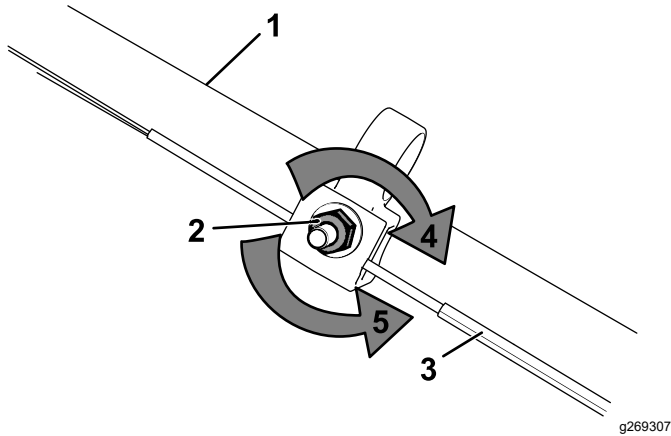

Figure 22
1. Turn the adjustment nut counterclockwise to loosen the cable adjustment (Figure 22).
2. Adjust the tension on the cable (Figure 22) by pulling it back or pushing it forward and holding that position.